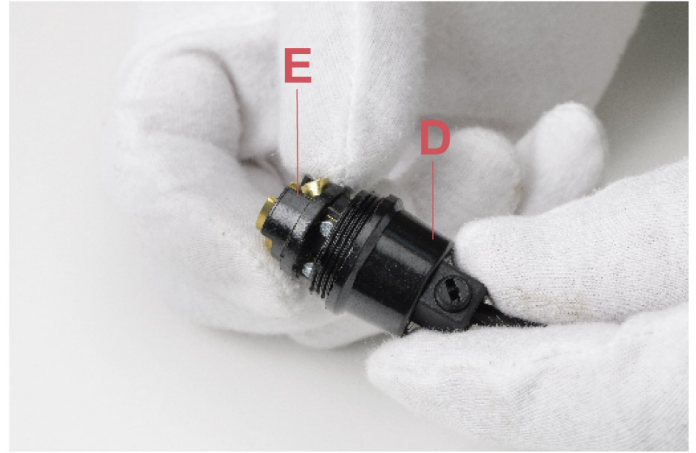

Fig.8
Insert the fitting (E) inside the support (D).(Fig.8)